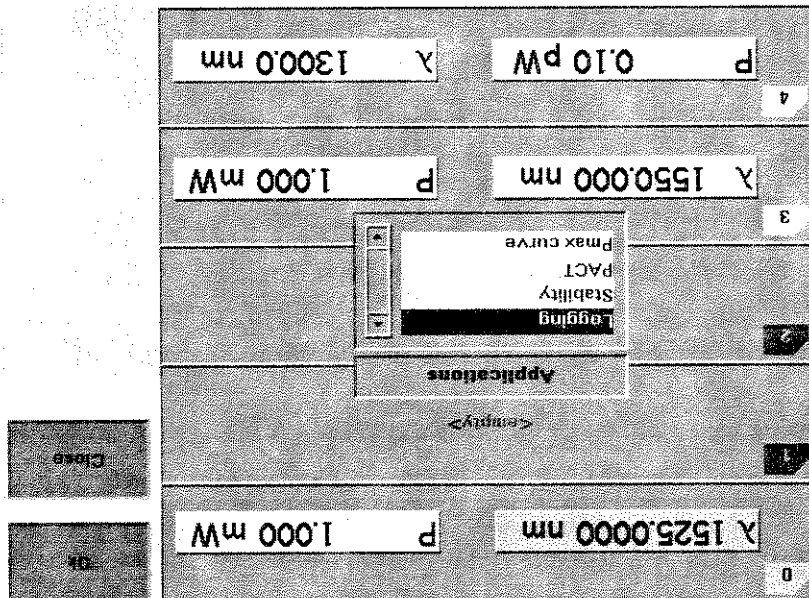

Figure 113 The Application Menu
- 1 Press the *Appl* hardkey. The Applications menu, as shown in Figure 113, appears.